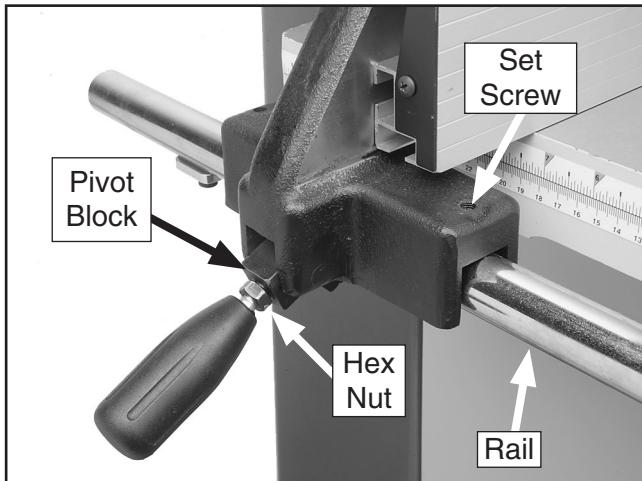

Figure 18. Fence handle installed.
1. Thread the fence handle onto the fence, as shown in **Figure 18**, and tighten the hex nut against the fence pivot block to secure the handle.
4. Pull the fence handle up and place the fence assembly on the rail, as shown in **Figure 18**.